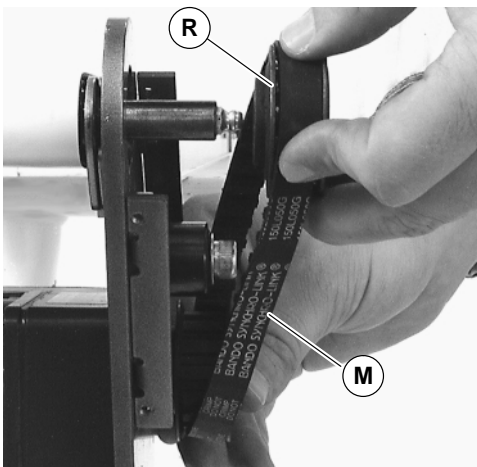

Figure 13
**NOTE:** If drive pulley (R of Figure 13) is replaced, wrap timing belt (M) around drive pulley and complete step 3.